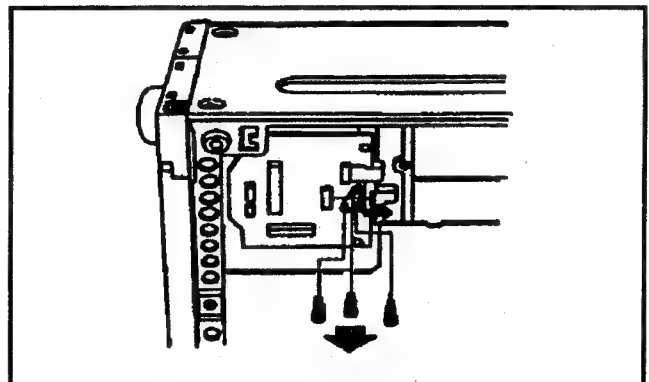

Fig. 6-1-3
6. Disconnect the connector P33 of the MECHA I/F P.C.Board. And remove the 3 screws which have spring from the Cylinder Unit, then remove the Cylinder Unit without touching any mechanical parts as shown in Fig. 6-1-3.